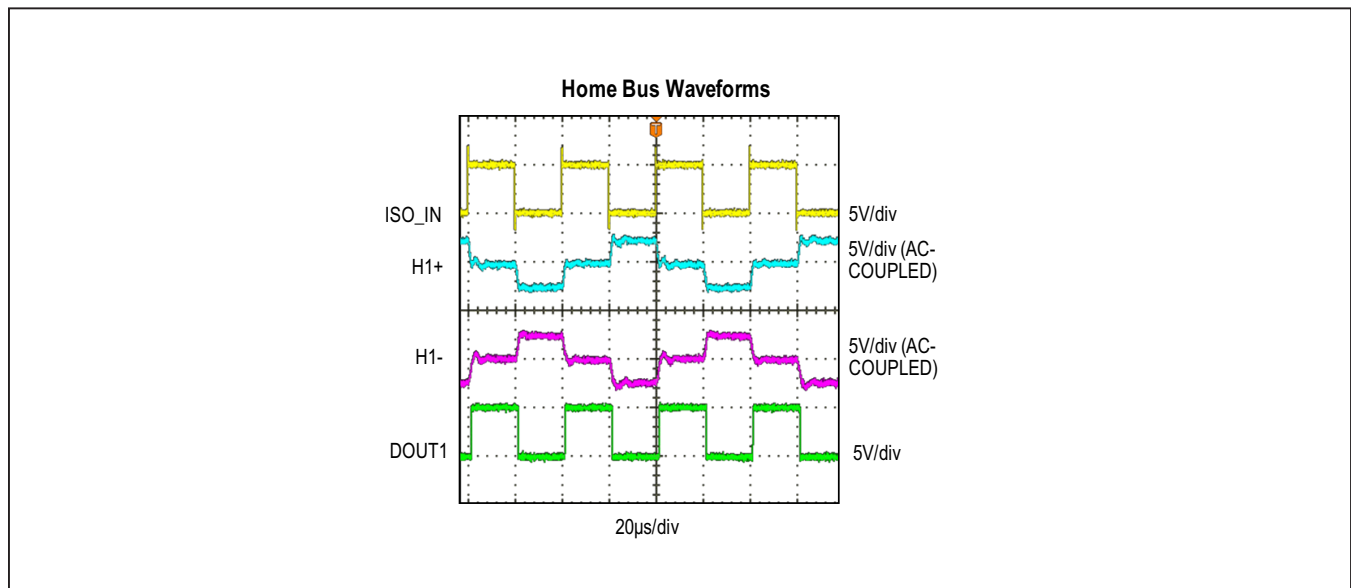

Figure 1. MAX22088 EV Kit Waveforms at 50kbps
- 19) Verify that all signals are as shown in Figure 1.